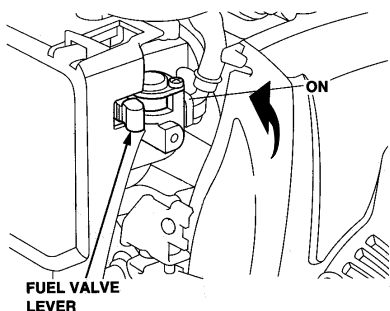

Figure 8. Engine Fuel Valve Lever (ON Position)
1. Place the engine fuel valve lever (See Figure 8) to the **ON** position.